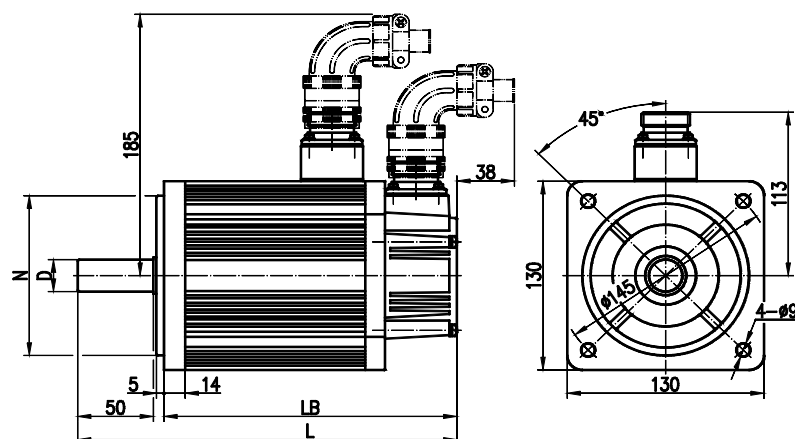

Fig. 2-3
- For external dimensions of 130SJT series motor, see figure 2-3, table 2-3.